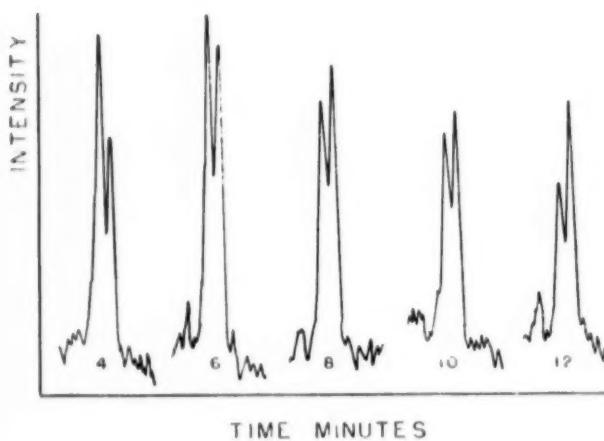

Figure 5—Effect of time on solubility of 6% Keystone feldspar in frit A.
3. *Effect of firing time:* An increase in firing time had an erratic effect on the peak's intensities, although there were small differences in the intensities of the entire range. Figures 5 and 6 show a very slight